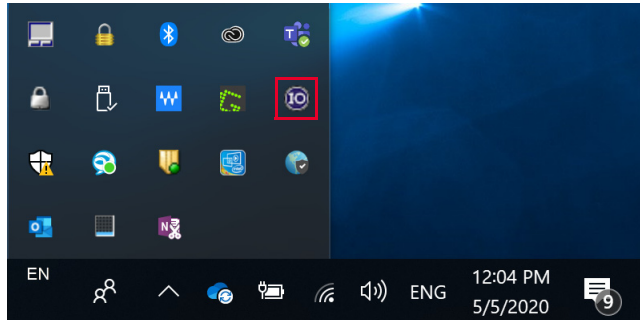

Figure 11-1 Launching the Keysight Connection Expert
- 1 Launch your Keysight Connection Expert as shown in Figure 11-1.